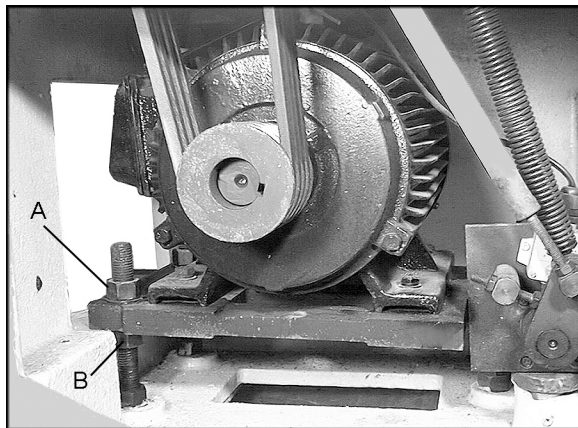

Figure 14-7: Belt Adjustment
NOTE: Your machine may look slightly different than what is shown in Figure 14-7.
3. Loosen upper hex nut (A, Figure 14-7). Place scrap piece of wood under motor to act as lever. Lift motor up and block temporarily.
6. Tension belts by loosening lower nut (B, Figure 14-7) and tightening upper nut (A, Figure 14-7) until light finger pressure causes approximately 3/4" deflection on each belt.